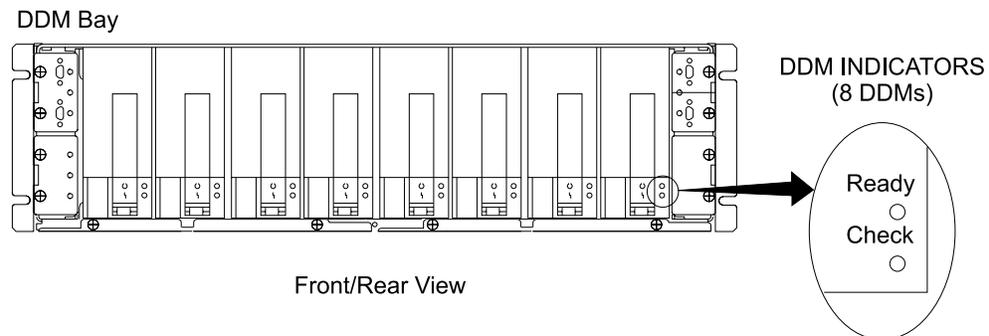

Figure 245. SSA DASD DDM Bay Indicators (S0080211)
1. Observe the indicators [Figure 245] on all front and rear SSA DASD DDM bays in the 2105 Model Exx/Fxx: